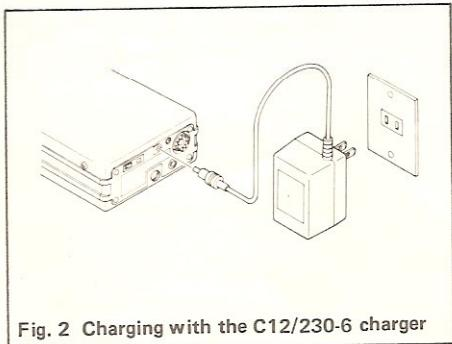

Fig. 2 Charging with the C12/230-6 charger
This socket accepts a Ni-Cad battery charger (see Fig. 2).
3. Plug the optional charger into the charging socket (23) on C58 for charging (see Fig. 2). Optional charger: C12/230-6, 10 hours for 80% charging.